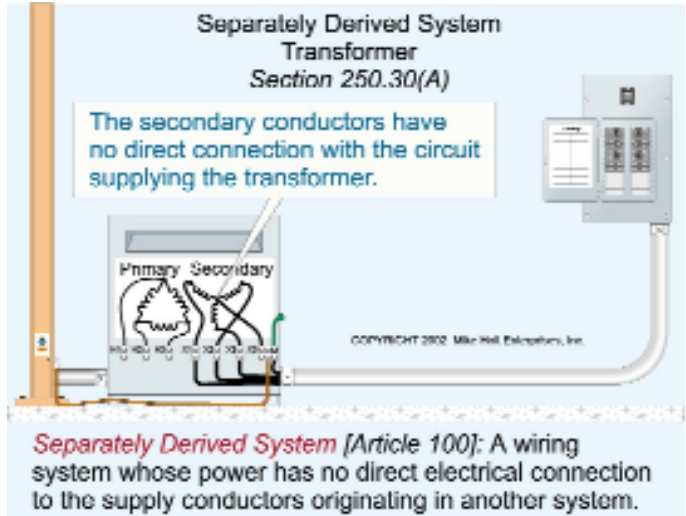

Figure 250-70
**AUTHOR'S COMMENT:** A separately derived system is a premises wiring system that has no direct electrical connection to conductors originating from another system. See Article 100 definition and 250.20(D). All transformers, except an autotransformer, are separately derived because the primary supply conductors do not have any direct electrical connection to the secondary conductors. Figure 250-70